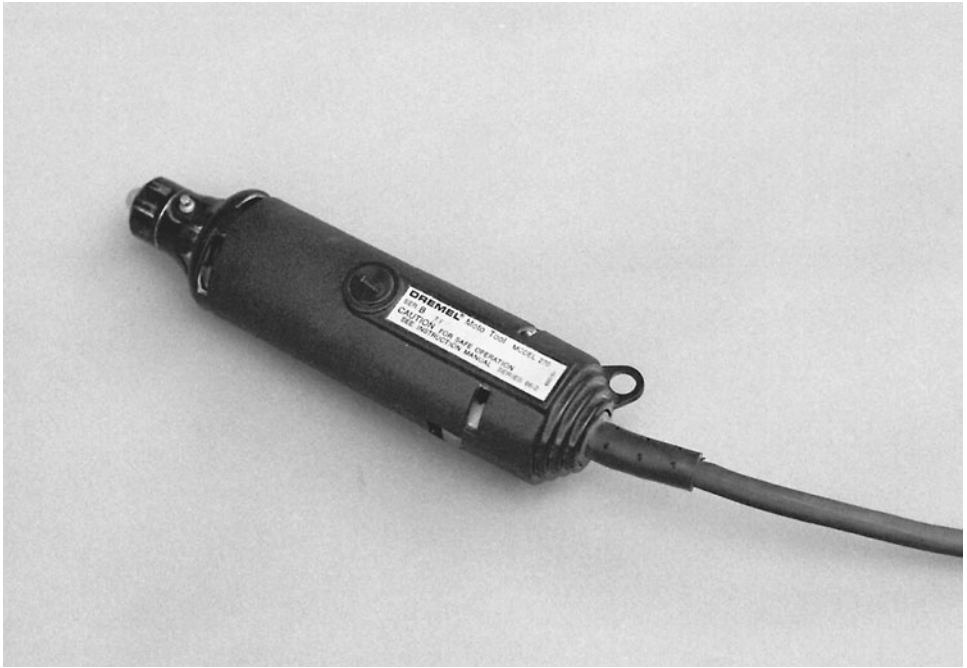

FIGURE 6-1 A motorized hobby tool is ideal for drilling, sanding, and shaping small parts.
- A motorized hobby tool, such as the model shown in Fig. 6-1, is much like a handheld router. The bit spins very fast (25,000 r/min and up), and you can attach a variety of wood, plastic, and metal working bits to it. The better hobby tools, such as those made by Dremel and Weller, have adjustable speed controls. Use the right bit for the job. For example, don't use a wood rasp bit with metal or plastic because the flutes of the rasp will too easily fill with metal and plastic debris.